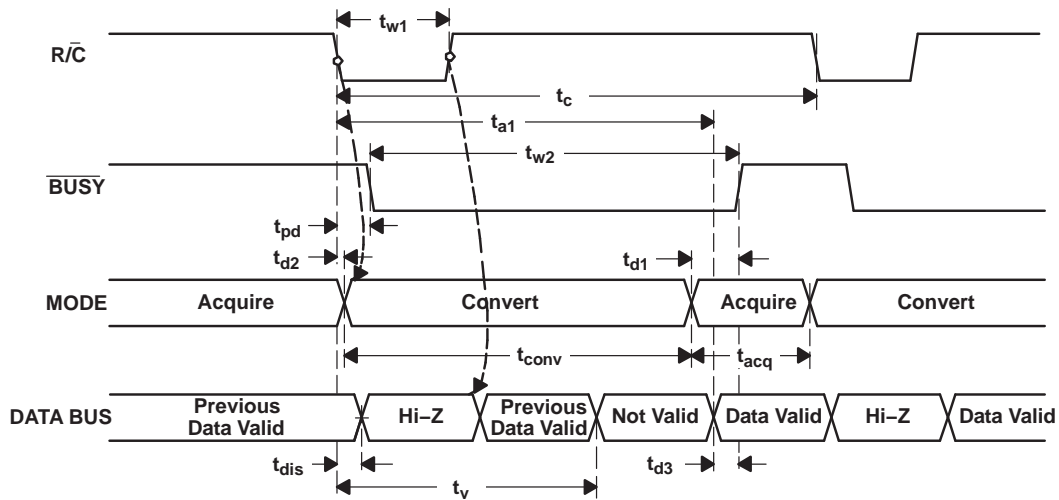
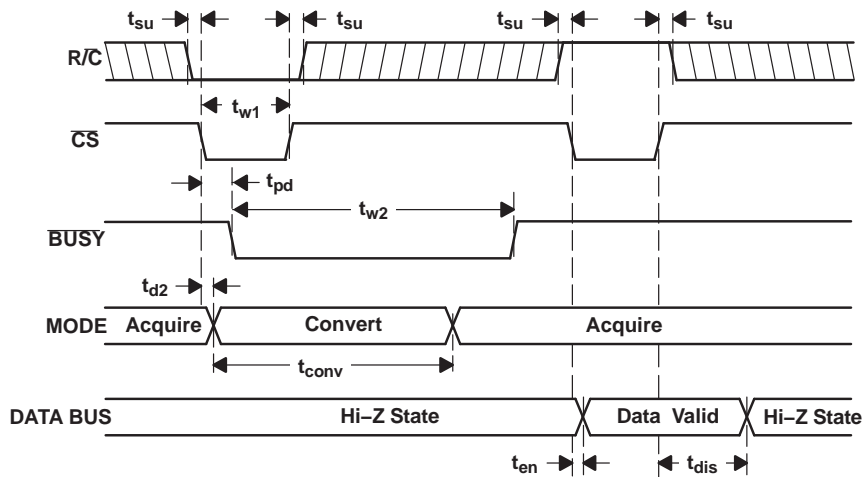

Figure 23. Conversion Timing with Outputs Enabled after Conversion ( $\overline{CS}$  Tied Low)
Figure 24. Using  $\overline{CS}$  to Control Conversion and Read Timing
The ADS8505 begins tracking the input signal at the end of the conversion. Allowing 4  $\mu$ s between convert commands assures accurate acquisition of a new signal. Refer to Table 1 for a summary of  $\overline{CS}$ ,  $R/\overline{C}$ , and  $\overline{BUSY}$  states and Figure 23 through Figure 25 for the timing diagrams.
(1) See Figure 23 and Figure 24 for constraints on data valid from conversion  $n-1$ .
After conversion  $n$  is completed and the output registers have been updated,  $\overline{BUSY}$  (pin 26) goes high. Valid data from conversion  $n$  is available on D15-D0 (pins 6-13 and 15-22).  $\overline{BUSY}$  going high can be used to latch the data. Refer to Table 3, Figure 23, Figure 24, and Figure 25 for timing specifications.
After conversion  $n$  has been initiated, valid data from conversion  $n-1$  can be read and is valid up to  $t_2$  (2.2  $\mu$ s typ) after the start of conversion  $n$ . Do not attempt to read data from  $t_2$  (2.2  $\mu$ s typ) after the start of conversion  $n$  until  $\overline{BUSY}$  (pin 26) goes high; this may result in reading invalid data. Refer to Table 3, Figure 23, Figure 24, and Figure 25 for timing specifications.
The number of control lines can be reduced by tying  $\overline{CS}$  low while using the falling edge of  $R/\overline{C}$  to initiate conversions and the rising edge of  $R/\overline{C}$  to activate the output mode of the converter. See Figure 23.